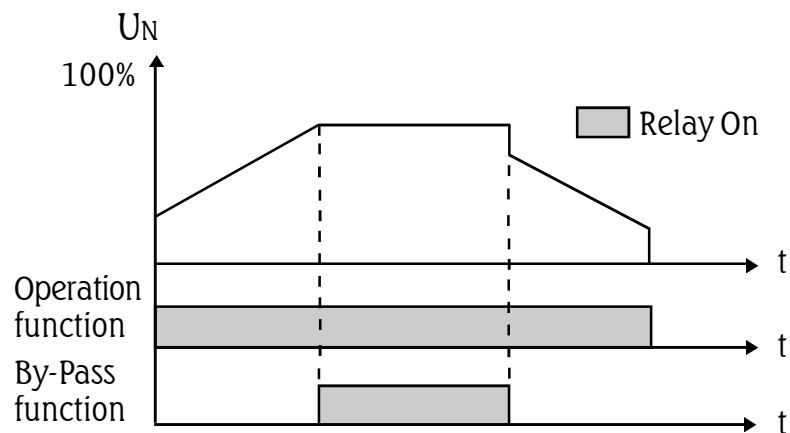

Figure 6.7 - Functioning of the relays RL1 and RL2
- 2 - Full voltage Function, the relay is only switched On after Soft-Starter has reached 100% of U_N , and switched Off when the Soft-Starter receives a command for general switching Off, or by ramp, as shown in Figure 6.7.